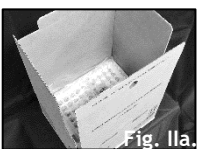

Fig. 2a.
2. Place sealed Transport Rack in Transport Carton. (See Fig. 2a)